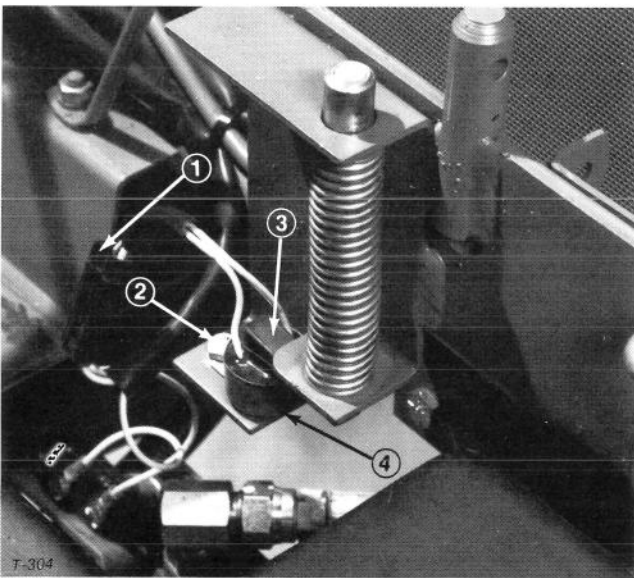

Figure 42
2. Remove instrument cover, disconnect negative battery cable from battery, and separate wire harness connectors (Fig. 42). Remove capscrew and locknut (Fig. 42) and lift switch up to disengage locating pin on bottom of switch from hole in mounting bracket.
3. To install new switch, set it on mounting bracket (Fig. 42) and assure locating pin on bottom of switch fits into hole in bracket. Secure switch in place with capscrew and locknut.